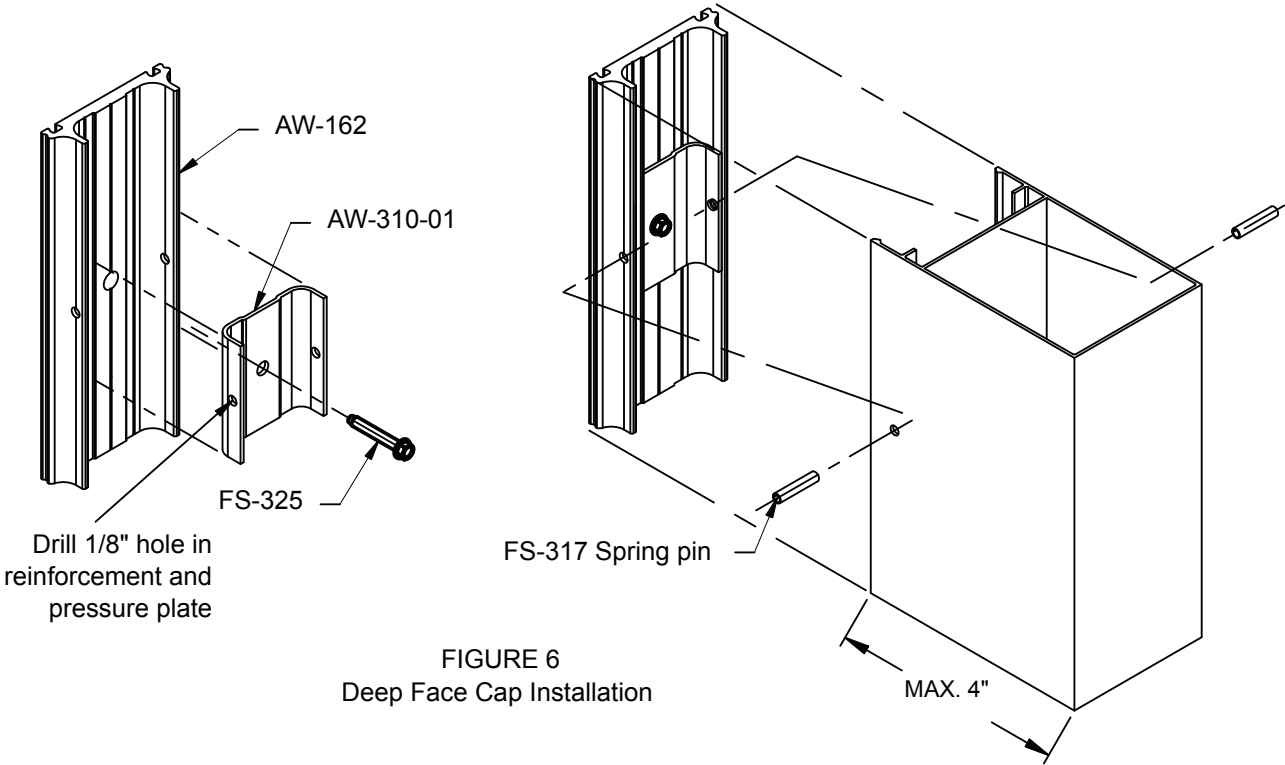

FIGURE 6
2.7 Pressure plate reinforcement AW-310 must be installed at each horizontal to vertical intersection for deep face caps as noted in 2.8. Reinforcement will be held in place with FS-325 pressure plate fastener. Face cap, pressure plate and reinforcement will be fabricated with .125" hole on each side at center of face cap. A FS-317 , 1/8" x 3/4" lg dowel pin (part # 35821) must be inserted at each side of face cap to secure the cap to the reinforcement. See FIGURE 6.